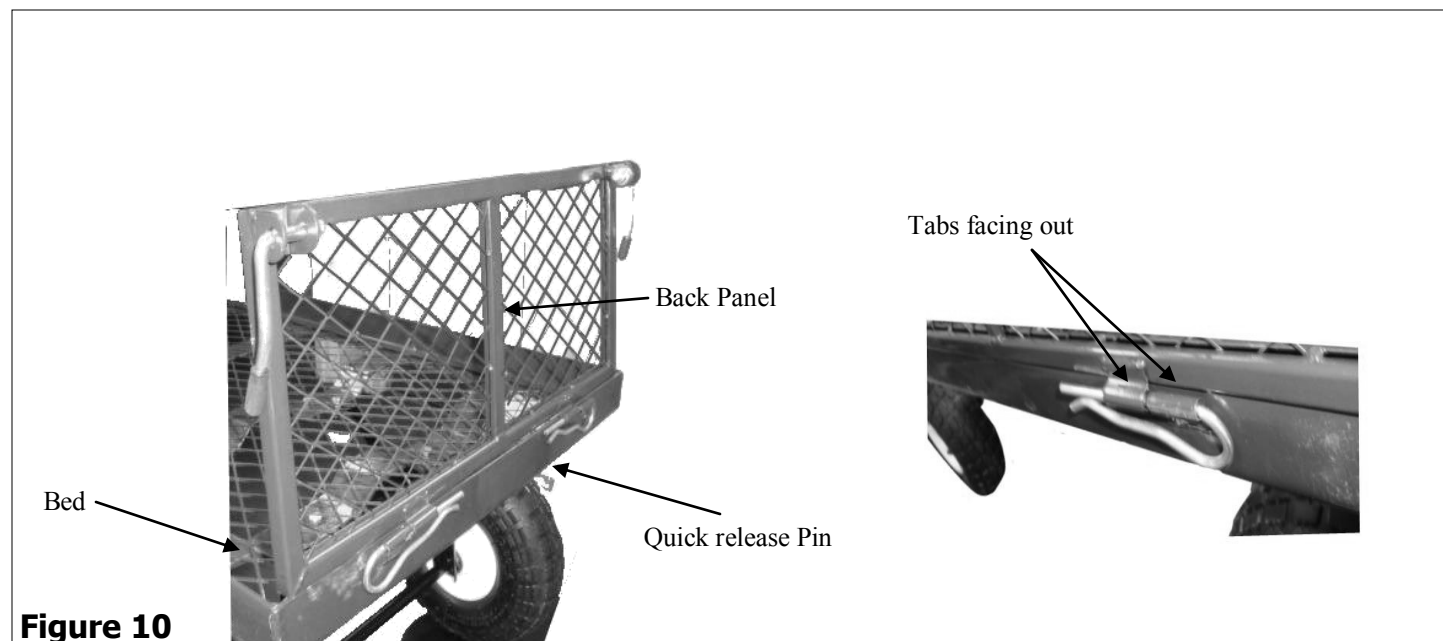

Figure 10
11. Join the Back panel to the bed by inserting Large Quick Release Pin through the side loop located at the bottom of the Back Panel and the top edge of the Bed. See Figure 10